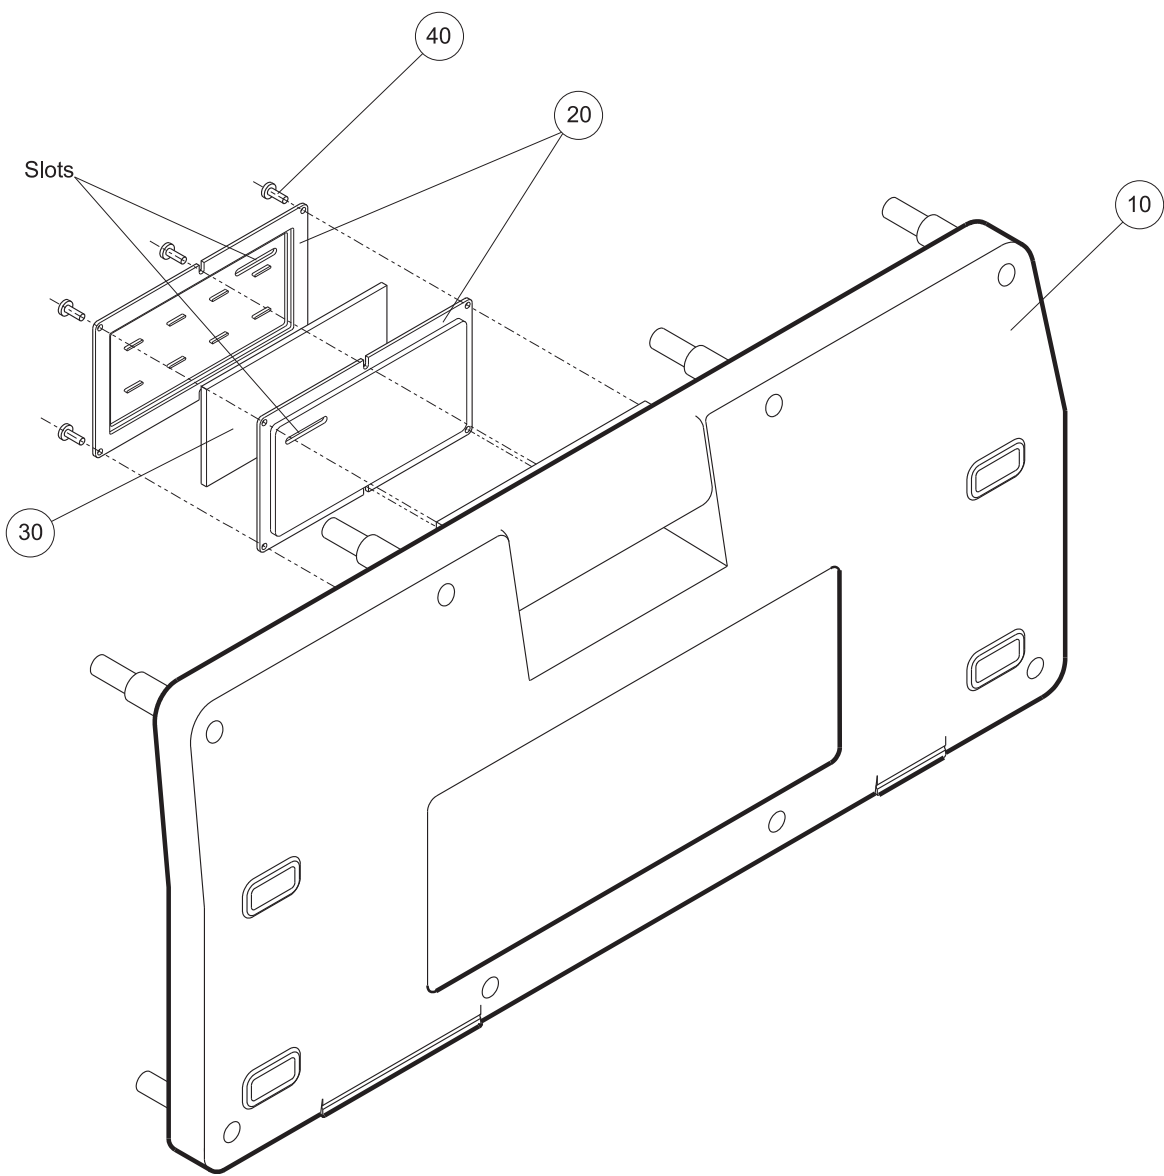

Figure 9 - Pump Filter Assembly
- 6.2 Lay the Rear Case on a flat surface, remove the six screws (Fig 9, Item 40) and keep them in a safe place.
- 6.3 Remove the Filter Housing Plates (Fig 9, Item 20) and the Filter (Fig 9, Item 30).
- 7.1 Assembly of the new Pump Filter is in the reverse order of disassembly. Make sure the slots in the Filter Housing Plates (Fig 9, Item 20) are uppermost in the positions shown in Figure 9.